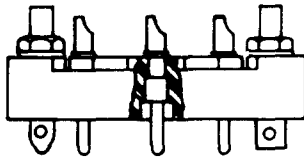

Fig. 14—KS-20143, L1 Through L14 Connector
2.06 KS-20143, L1 Through L14: The KS-20143-type (Fig. 14) are polarized, multicontact, panel-mounted, male connectors that are equipped with gold-plated, pin contacts. The wiring end of the contact is arranged for solder connection. These connectors will mate with the KS-20144, L1 through L14, connectors, respectively. For more information, see Table B.